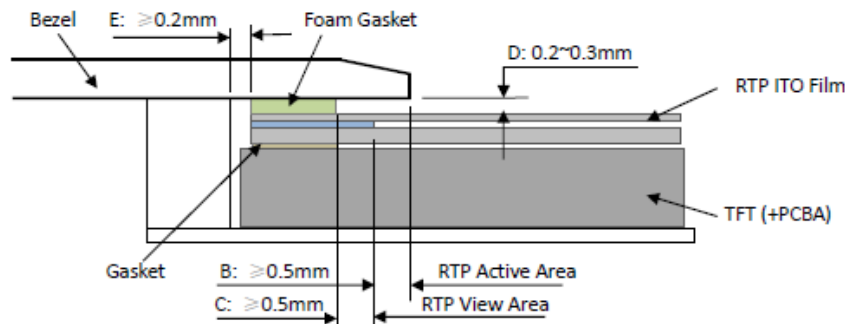

Figure 4
- It should bezel touching the RTP Active Area (A.A.) to prevent abnormal touch.It should left gab $D=0.2\sim 0.3\text{mm}$ in between. (Figure 4)
- Outer bezel design should take care about the area outside the A.A. Those areas contain circuit wires which is having different thickness. Touching those areas could de-form the ITO film. As a result bezel the ITO film be damaged and shorten its lifetime. It is suggested to protect those areas with gasket (between the bezel and RTP).The suggested figures are $B\geq 0.50\text{mm}$; $C\geq 0.50\text{mm}$. (Figure 4)
- The bezel side wall should keep space $E=0.2\sim 0.3\text{mm}$ from the RTP. (Figure 4)
- 为避免面框直接压在动作区 (A. A.) 上造成误动作，面框与电阻触摸屏 (RTP) 之间应留有一定的空隙 $D=0.2\sim 0.3\text{mm}$ 之间。(附图 4)
- 设计面框时，要注意用面框保护触摸屏四周的非保证操作区域，因为布线区域在此处形成一台阶，在此区域附近操作时 ITO Film 变形较大，容易导致 ITO 损坏而降低寿命。为保护 RTP 和避免误操作，在 RTP 与面框之间垫缓冲物 (Gasket)，我们建议设计面框应覆盖动作区的边缘，面框边缘到 V. A. 区的距离 $B\geq 0.50\text{mm}$ ；垫圈内边缘到 V. A. 区的距离 $C\geq 0.50\text{mm}$ 。(附图 4)
- 在设计面框与 RTP 组装时，应考虑到面框内侧与 RTP 外侧的间距 $E\geq 0.2\text{mm}$ 。(附图 4)